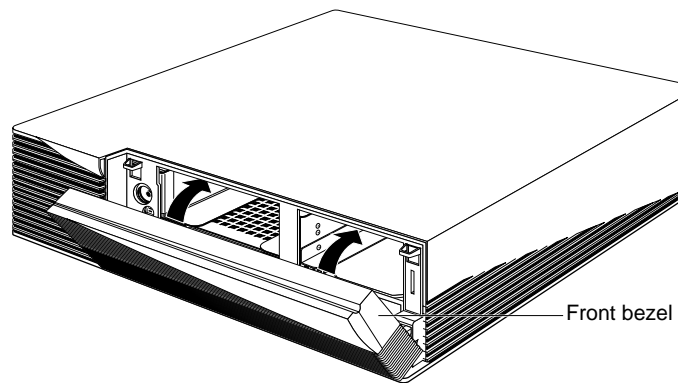

Figure 3-2 Replacing the Front Bezel on the Indigo² Chassis
- Place the tabs on the bottom of the bezel in the grooves in the front of the chassis, as shown in Figure 3-2.